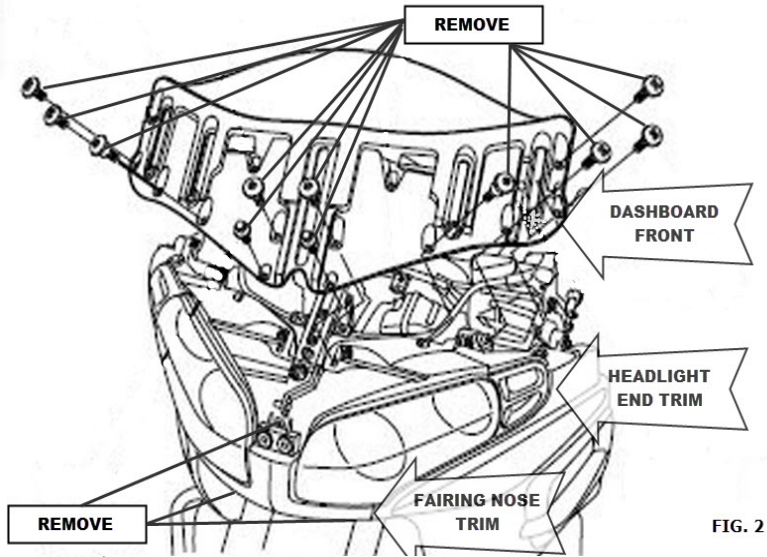

FIG. 2
7. USING A 5MM ALLEN WRENCH AND A PHILLIPS SCREWDRIVER REMOVE THE SCREWS SHOWN IN FIG. 2 FROM THE FRONT OF THE DASHBOARD. ALSO REMOVE THE TWO PLASTIC RIVETS IN THE CENTER. (SEE FIG. 2)
8. USING AN 8MM WRENCH AND A PHILLIPS SCREWDRIVER REMOVE THE FAIRING NOSE TRIM. THERE ARE TWO PHILLIPS SCREWS ON THE BOTTOM SIDE AND ONE BOLT ON THE FRONT. (SEE FIG. 2)